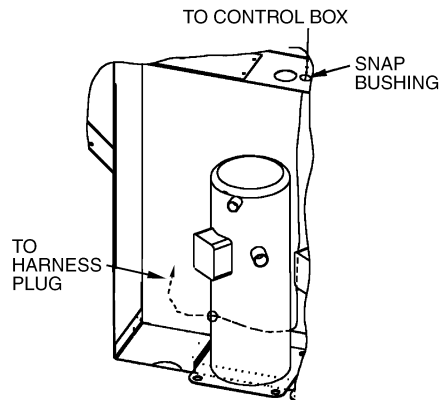

Fig. 10 — Compressor Section
14. Install the plastic snap bushing into the bottom of the control box as shown in Fig. 10.
15. Route the power exhaust harness through the compressor section and into the control box, through the snap bushing. See Fig. 10.